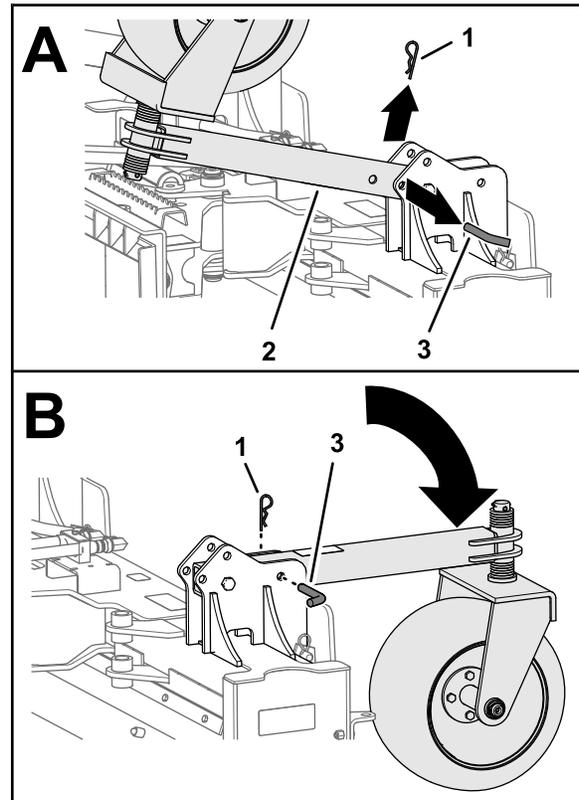

Figure 3
1. Remove the hairpin cotter and pin (Figure 3).
2. Rotate the caster wheel to the operating position as shown in Figure 3.
3. Secure the caster wheel using the hairpin cotter and pin (Figure 3).